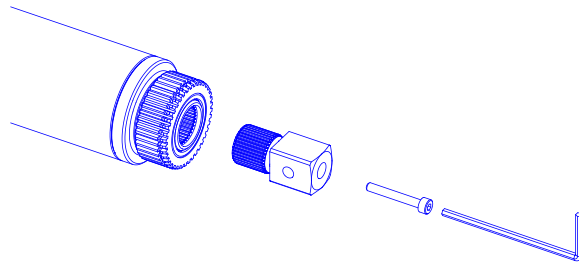

FIGURE 4
1. Remove screw and take out drive square. (See Figure 4)
1. (Extensions with splined shafts only) Remove screw and take out drive square. (see Figure 4)